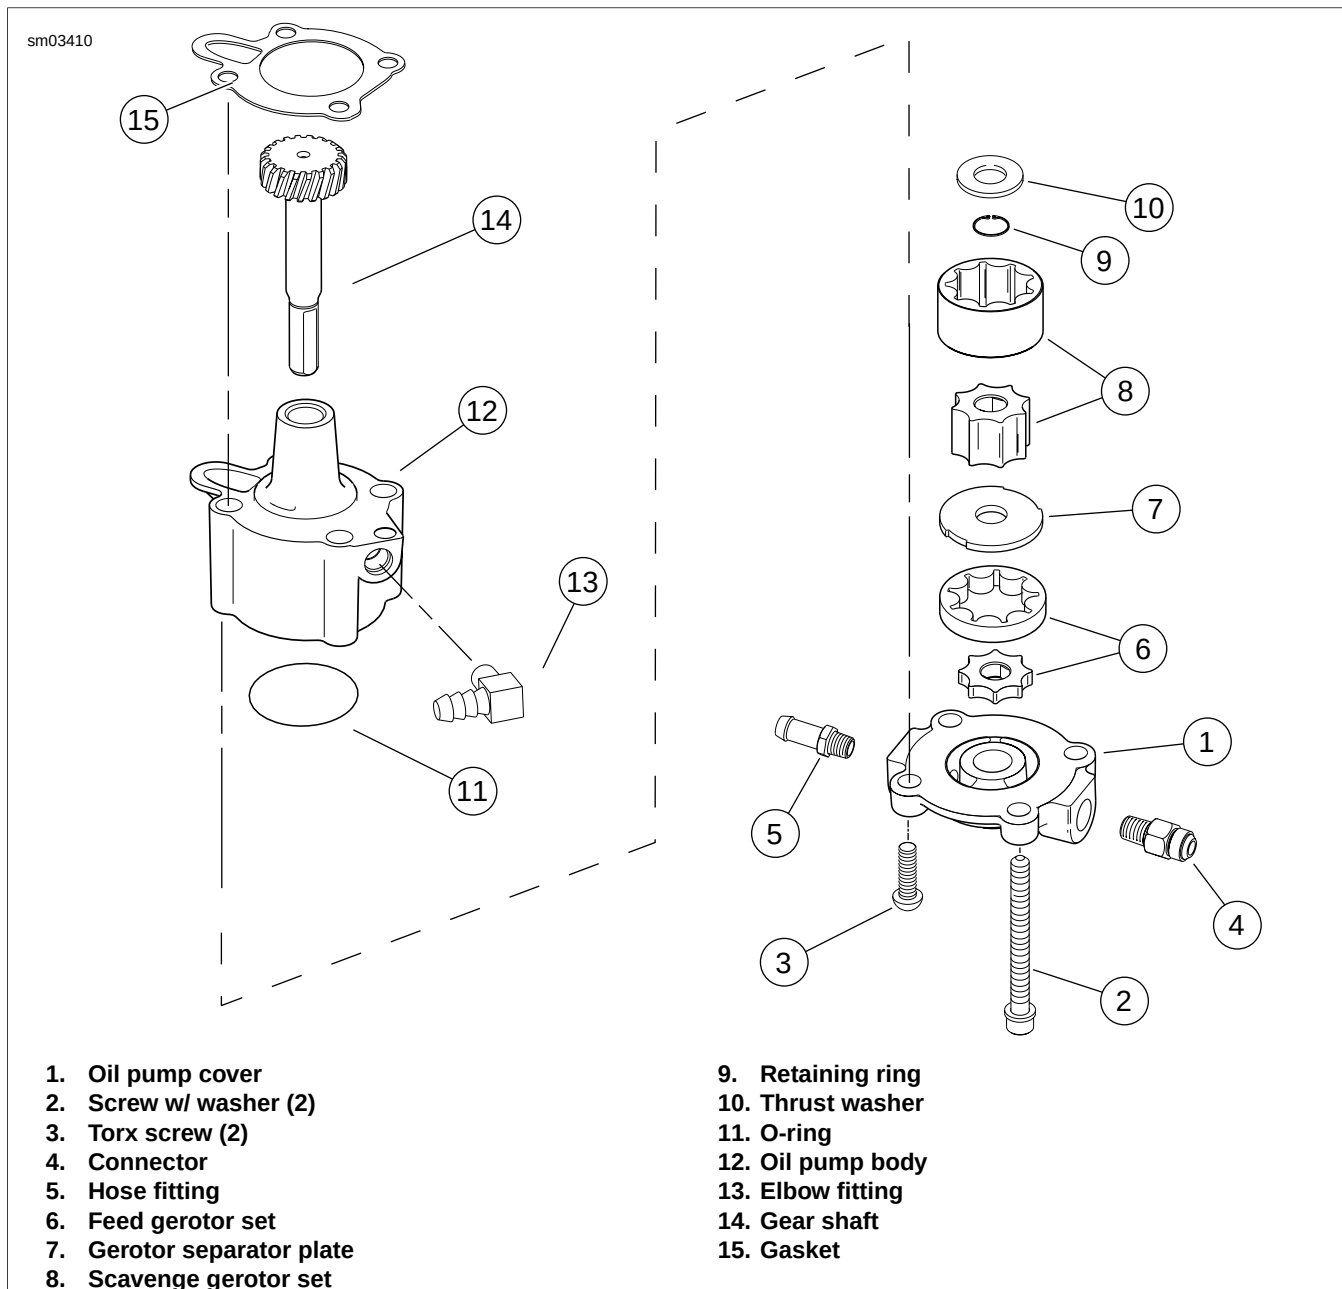

Figure 3-165. Oil Pump: XL Models
See Figure 3-165. The oil pump is designed to be removed as a complete assembly by removing the two long screws (2) at opposite corners of the pump. The other two screws (3) hold the pump together so that it may be removed and installed as a unit.
3. See Figure 3-165. Carefully remove two screws (2) that secure oil pump to crankcase. Pump will drop with screws removed. Discard mounting gasket (15).
1. See Figure 3-165. Remove two Torx screws (3). Lift cover (1) off body (12). Remove and discard o-ring (11).
2. Slide both pieces of feed gerotor set (6), separator plate (7) and both pieces of scavenge gerotor set (8) off gear shaft (14).
3. Remove and discard retaining ring (9). Remove thrust washer (10) and gear shaft.
1. See Figure 3-165. Install gear shaft (14) through oil pump body (12). Position thrust washer (10) over end of shaft. Install **new** retaining ring (9) into groove in shaft.
2. Insert inner gerotor of the scavenge gerotor set (8) over gear shaft.
4. Position separator plate (7) into case and line up slots on perimeter with tabs inside oil pump body.
5. Place feed gerotor set (6) over gear shaft.
6. Install a **new** o-ring (11) into groove in oil pump cover (1). Place cover onto pump body. Install two Torx cover screws (3). Tighten to 70-80 **in-lbs** (7.9-9.0 Nm).
1. See Figure 3-165. Place **new** mounting gasket (15) in position.
2. Secure pump to crankcase with two screws (2). Tighten to 125-150 **in-lbs** (14.1-16.9 Nm).